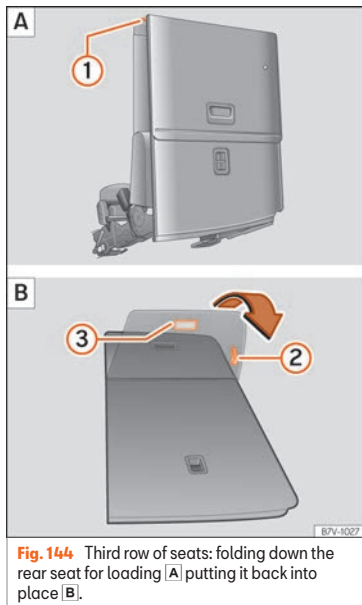

Fig. 144 Third row of seats: folding down the rear seat for loading **A**, putting it back into place **B**.
- If necessary, pull on the lever » Fig. 144 ❷ to move the seat to the required position.
- When the seat is folded down, no adults or children should travel in it » ❸.
- Remove objects from the footwell in front of and behind the rear seat »» ❶.
- Pull lever »» Fig. 144 ❶ back and fold the seat backrest forwards. The rear seat folds forward »» ⚠ and the cushion also moves forward.
- Pull on the handle »» Fig. 144 ❷ to put the seat tray back in position.
- Pull the handle »» Fig. 144 ❸. The entire seat folds backwards.